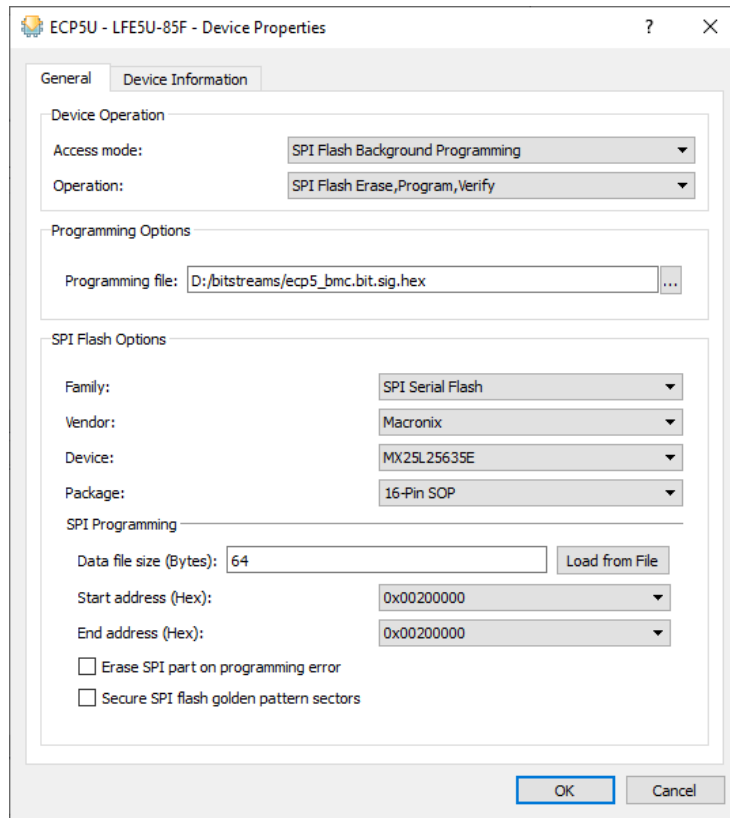

Figure 4.10. Device Operation
4. Configure operation for Device 3 as shown in Figure 4.10.